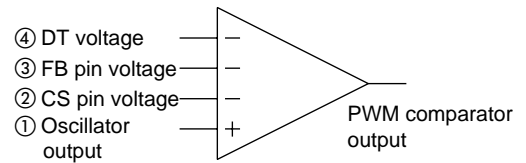
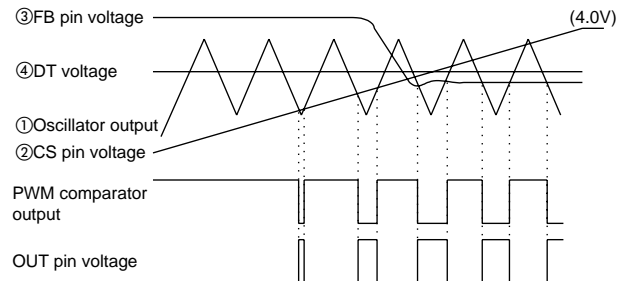

Fig. 3 PWM comparator
Fig. 4 PWM comparator timing chart
The PWM comparator has four inputs as shown in Figure 3. Oscillator output ① is compared with CS pin voltage ②, FB pin voltage ③, and DT voltage ④. The lowest of three inputs ②, ③, and ④ has priority and is compared with oscillator output ①. While the voltage is lower than the oscillator output, the comparator output is high. While the voltage is higher than the oscillator output, the PWM comparator output is low (see Figure 4). The IC OUT pin voltage is high while the PWM comparator output is low. When the IC is powered up, CS pin voltage ② controls soft start operation. The output pulse then begins to widen gradually. During normal operation, the output pulse width is determined within the maximum duty cycle (FA5510/14: 46%, FA5511/15: 70%) set by DT voltage ④ under the condition set by FB pin voltage ②, to stabilize the output voltage.